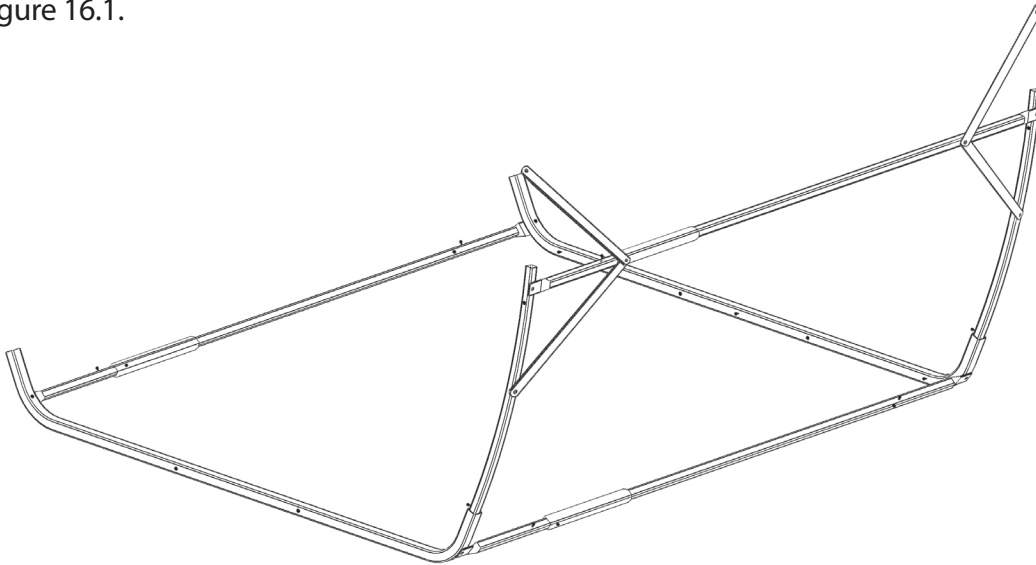

Figure 16.1
STEP 8: Install Section 1 that was created in Step 7, into the base that was created in Step 6, resulting in the frame illustrated in Figure 16.1.